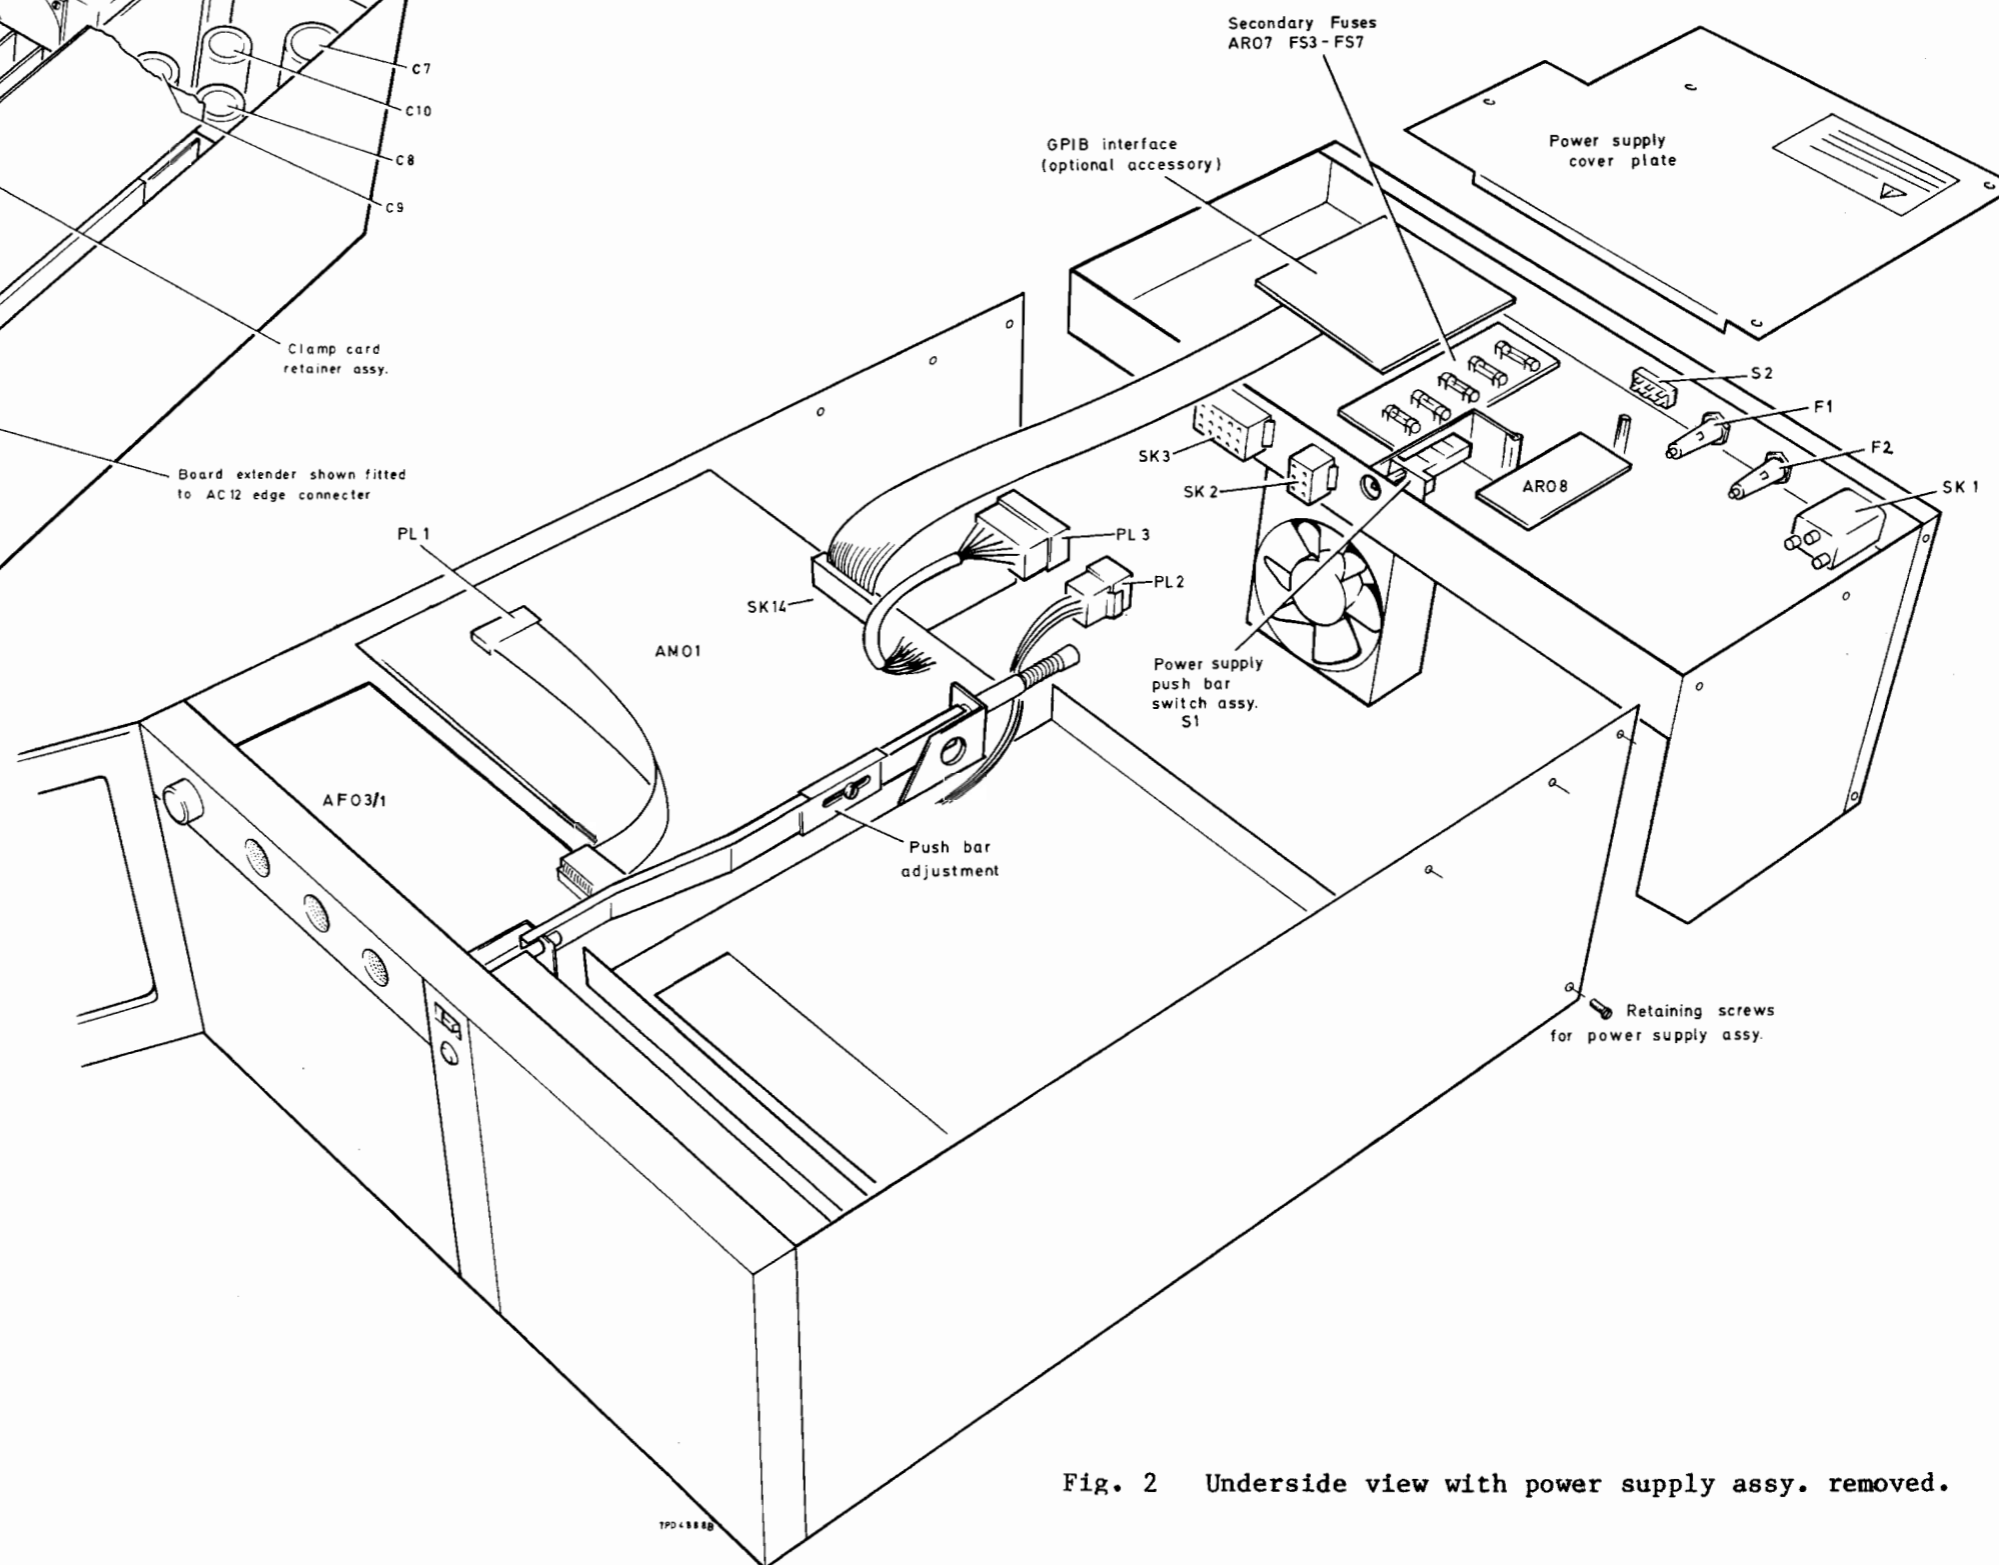

Fig. 2 Underside view with power supply assy. removed.
Underside view, see Fig. 2
- (1) First detach the rear end of the side carrying handles by first prizing off the plastic cover to disclose the end cap and handle securing screws. Unscrew the handle screw followed by the end cap screw to release the rear side handle fixing. Now remove the eight power supply assy. retaining screws shown in Fig. 2.
- (2) Disconnect AC09/2, PL1, PL2, and PL3; if the optional GPIB interface is fitted also disconnect SK14. Carefully pull the power supply assy. to the rear taking care not to distort the push bar or switch S1 when separating the unit.
- (3) On replacement it may be necessary to mechanically re-adjust the push bar to operate the switch S1 correctly. This is easily done by slackening the retaining screw in the distance piece situated in the centre of the push bar then altering the effective length as necessary before re-securing the screw.
32. Self test and a simulated failure can also be checked as described in the Operating Manual Chap. 3-1. Also connect the required microwave sweeper to the 6500 and terminations, connectors and cables necessary as listed in Chap. 3-1 following Fig. 2.